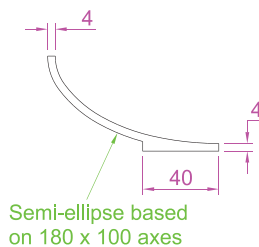

Fig. 12.22 Second example – **Revolve**. The pline outline
2. Construct the pline outline (Fig. 12.22).